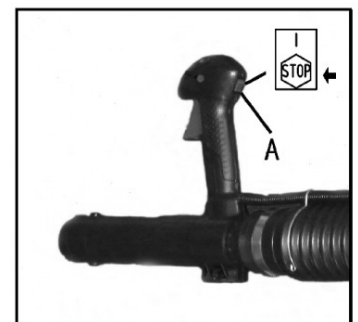

Fig.13
When it is necessary to stop blower engine immediately, PRESS the OFF “STOP ” switch (A) (Fig.13).
For normal stopping, release trigger and allow engine to return to idle speed. Then PRESS the OFF “STOP ” switch (A) (Fig.13).